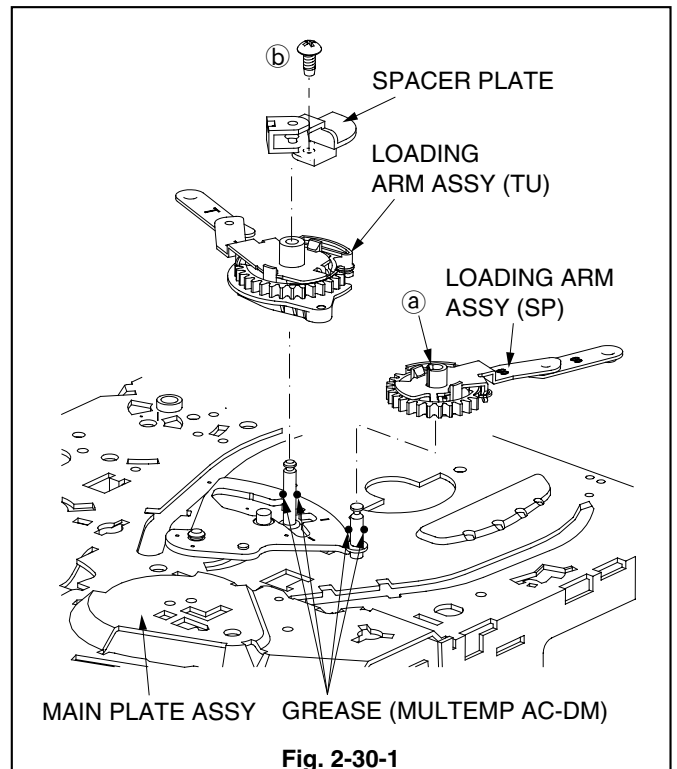

Fig. 2-30-1
1. Release the catch (①) of the LOADING ARM ASSY (SP) shown in the Fig. 2-30-1 to remove the LOADING ARM ASSY (SP).
2. Remove the screw (②) fastening the SPACER PLATE shown in the Fig. 2-30-1 to remove the SPACER PLATE.
3. Remove the LOADING ARM ASSY (TU) shown in the Fig. 2-30-1.
1. Apply GREASE (MULTEMP AC-DM)[859D055O90] to the parts on the MAIN PLATE ASSY specified in the Fig. 2-30-1.